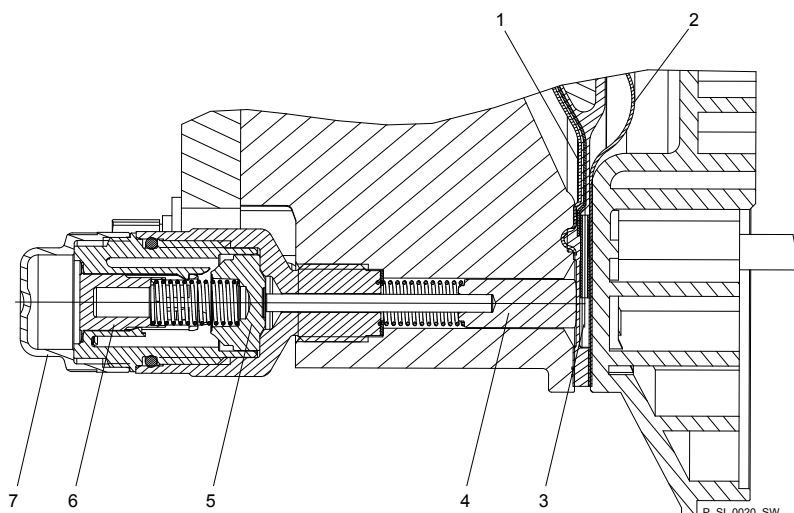

Fig. 44: Section through the Sigma diaphragm rupture warning system ("Visual break indicator" version)
2. ➤ If the piston of the diaphragm rupture sensor - see Fig. 44, item 4 - should have become dirty or damp, clean both it and the hole in which it runs.